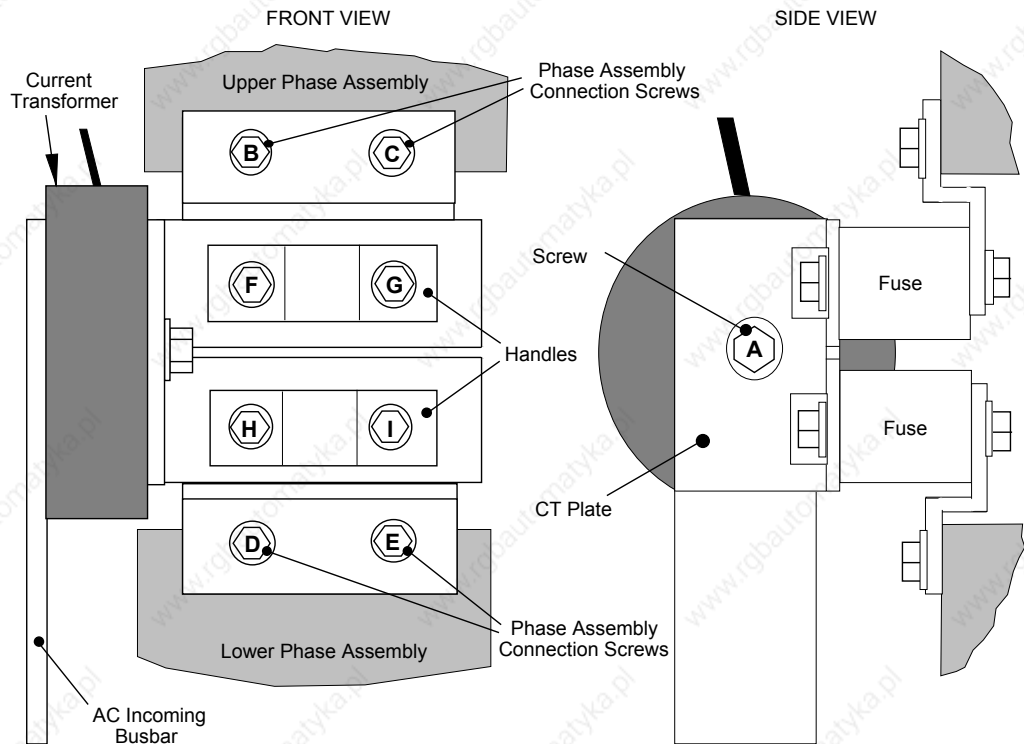
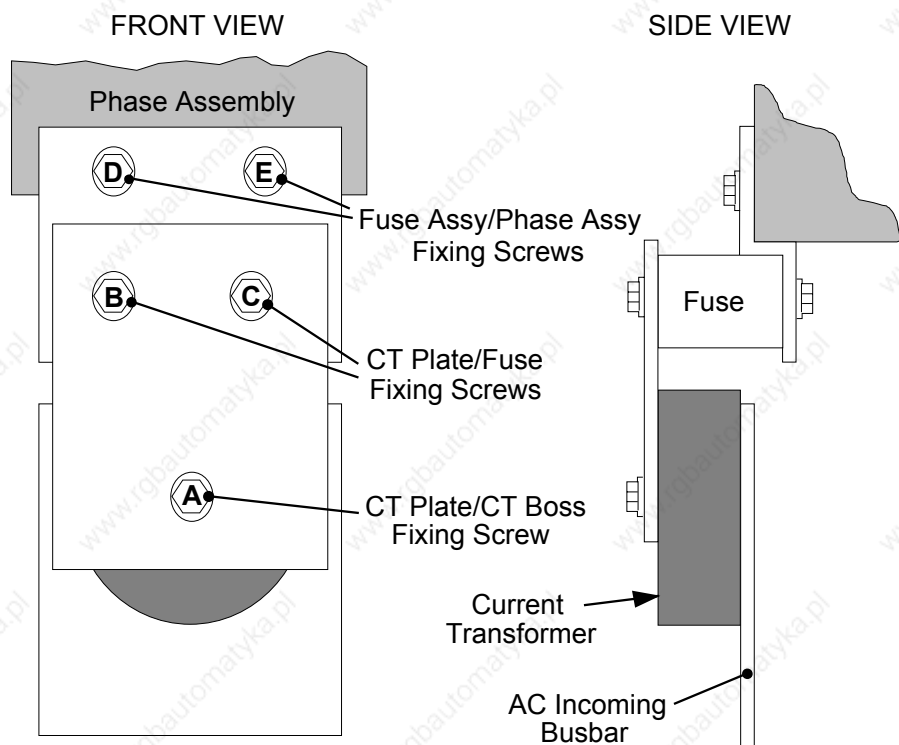

Figure 8-1 590+ (Frame H) Fuse Replacement Diagram
Figure 8-2 591+ Fuse Replacement Diagram
1. Referring to Figure 8-1 (590+) or Figure 8-2 (591+), remove the M12 screw (A). Undo the four screws (B, C, D, E) which allows the CT plate and fuse assembly to be removed.